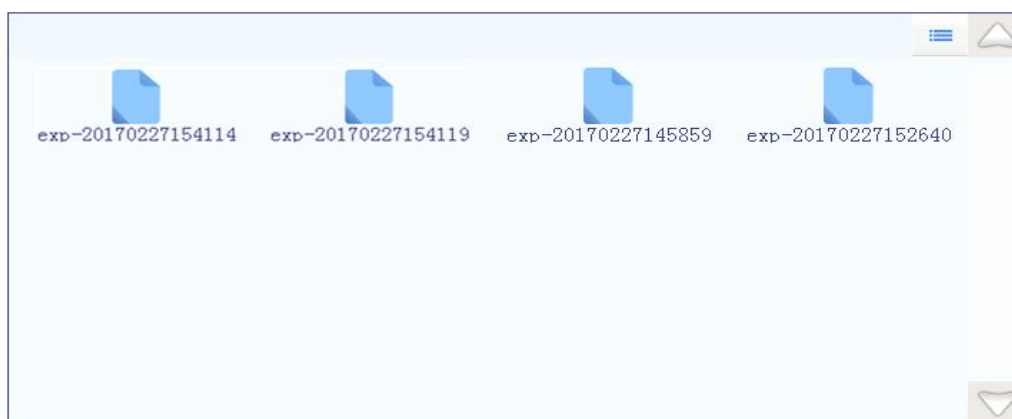

Figure E-2.1. Experiment File Tab - Experiment File Display Area
- 1. Experiment File Displaying Area:** display the pre-existed experiment files or file folders within the instrument system, as shown in figure E-2.1.